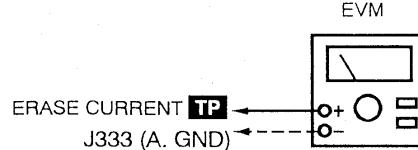

Fig. 9
- Connect the measuring instruments as shown in Fig. 9.